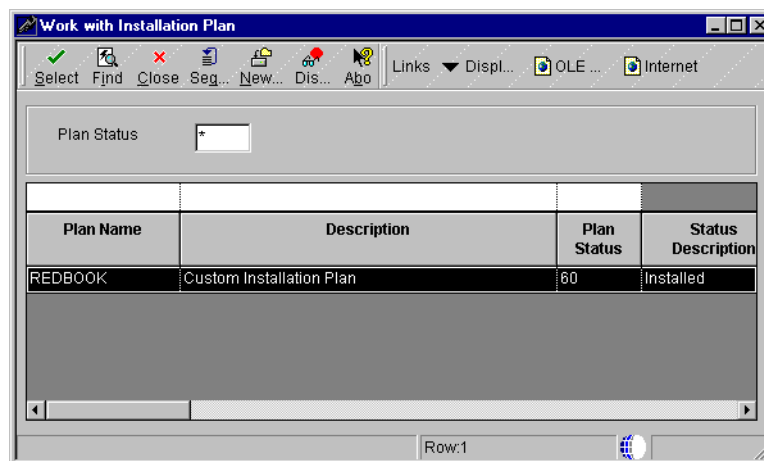

Figure 85. Finished Installation Plan
3. The Installation Workbench form re-appears, showing your package with an updated Plan Status of 60 and Status Description of Installed (Figure 85).